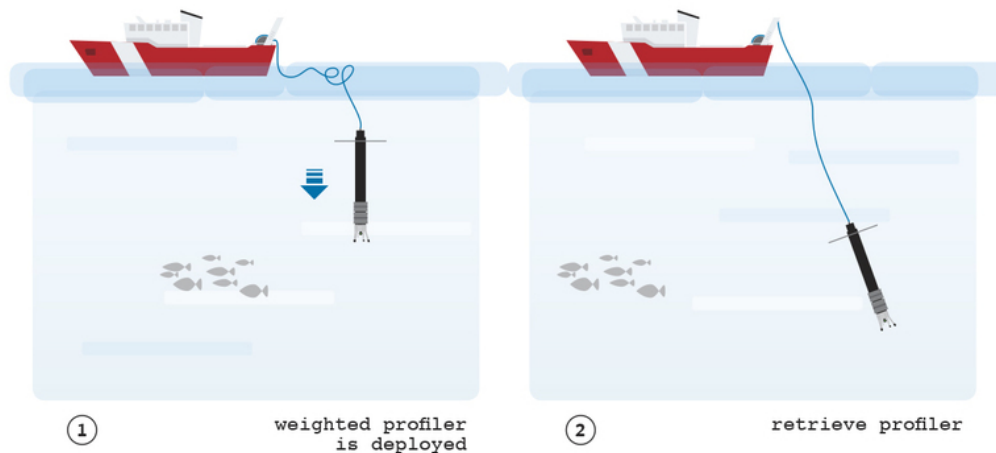

Figure 29: Downward Profile
A schematic of the deployment technique for a downward profile is shown in (Figure 29). The procedure is as follows:
5. Pay out the tether at a rate faster than the rate at which the instrument is moving away from the ship. You achieve this condition when there are one to two loops (5-10 m) of slack tether near the surface (Figure 29, left). The exact amount is not critical but it is always good to have a few extra meters floating in the water in case you momentarily must stop paying out the tether – for example, to undo a snag.
7. Recover the instrument by pulling it to the surface using the tether (Figure 29, right).